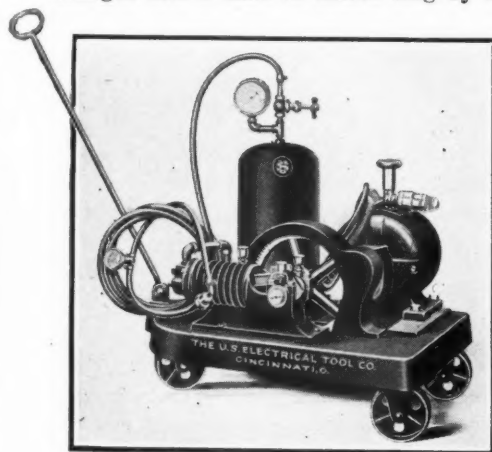

Fig. 1—U. S. garage tire pump
**U. S. Tire Pump**—The illustration, Fig. 1, shows a new tire pump suitable for both public and private garages, which is sold by the U. S. Electrical Tool Co., Cincinnati, O.